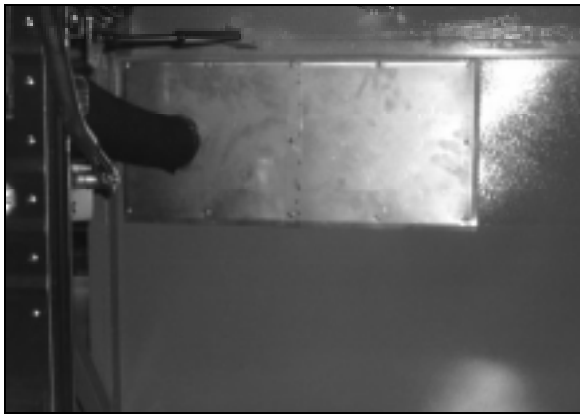

FIGURE 1: "XL" SERIES WITHOUT A/C CONDENSER FUEL TANK CONNECTION ACCESS PANEL.
1. Open the A/C condenser's compartment access door on the right hand side of the vehicle. The access to fuel tank connections sits behind the A/C condenser. Some "XL-MTH" vehicles are not equipped with a central A/C system installed in *Prevost* factory (Fig. 1).
2. Definitive access to fuel tank connections will be possible after the small bolted access panel removal (Fig 1) (Fig. 2) on all "XL" series vehicle and a few "H" series vehicle, while a direct opening without access panel lays on later "H" series vehicles (Fig. 3).